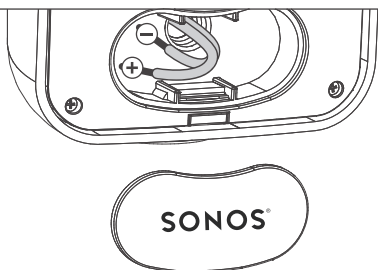

Figure 8: Connection Terminals
- Insert the wires into the connector holes (see figure 8).